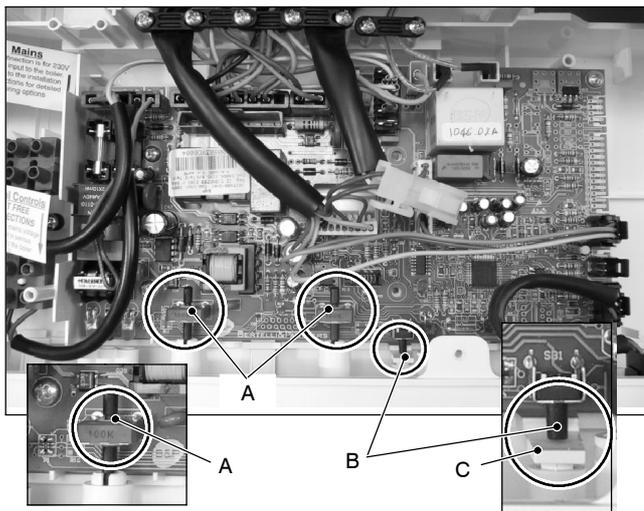

Fig. 26
- 8 Insert the spindles in the control panel knobs until the notch *A* (Fig. 26) reaches the potentiometer edge. It is not necessary to force them in the knob.
- 9 While tightening the screws that fix the Electronic control/ignition p.c.b. on the control panel, keep the p.c.b. towards the control panel fascia making sure of the contact between the boiler reset button *B* and the tab *C* (Fig. 26).